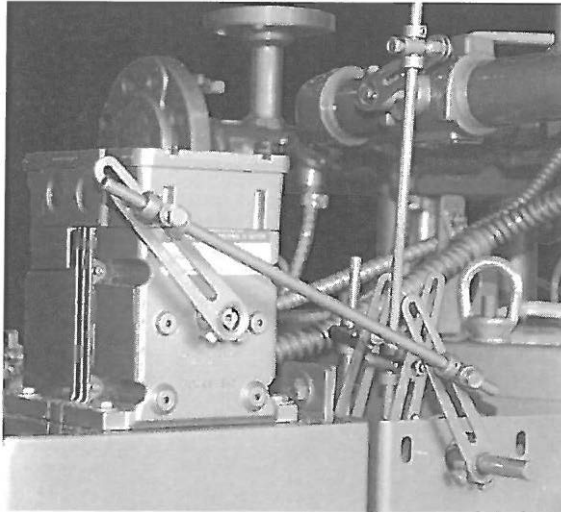

FIGURE 25- LINKAGE COMPONENTS
4. Check the exhaust for the presence of smoke. If smoke is present, contact Fulton Companies at (315) 298-5121 or contact your local Fulton Representative.
5. In systems utilizing linkage, check all linkage components for tightness. (Figure 25)